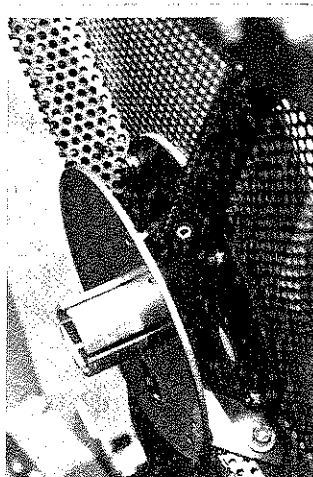

FIGURE 12
STEP 10. Place stabilizer plate over feed support and attach to ribs of reflector with 4 #10-32 x 5/8" bolts flat washers and locking type nuts. Tighten nuts. (Figure12)